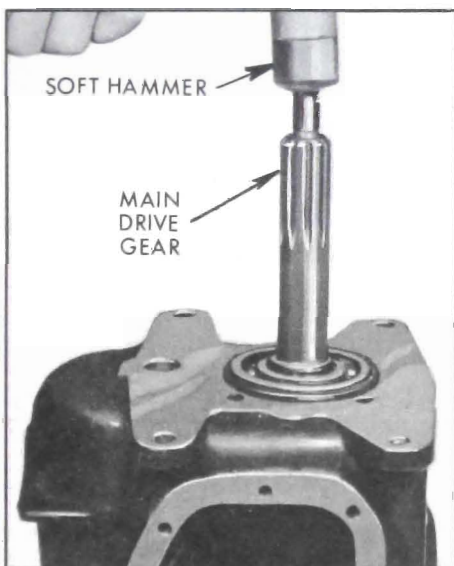

Figure 4-58—Removing Main Drive Gear
14. With soft hammer, tap main drive gear down from front bearing as shown in Figure 4-58.